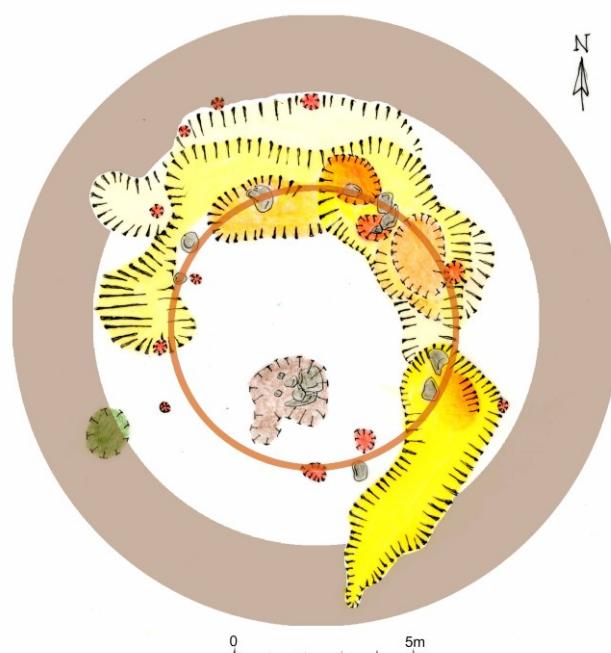

Figure 4 : Typical ring-ditch plan with intercutting scoops and hollows within turf wall.
- Record the **scoops, depressions, individual cut lines** within the ring-ditch area in great detail and with great care as a contour plan, because their **position, intercutting and stratigraphic relationship** can tell the **life-story of the ring-ditch use**, subsequent phases of use and re-cutting, and inform about the length of use of this part of the house (see Figure 4).
draw detailed topographical plan of ring-ditch formation, recording all scoops, cuts, and depressions, wear etc. by using hachure shading	- record scoops, depressions, individual cut lines within ring-ditch area in great detail and with great care; their position, intercutting and stratigraphic relationship can tell life-story of ring-ditch use, subsequent phases of use and re-cutting, and inform about length of use of this part of house (see Figure 4).